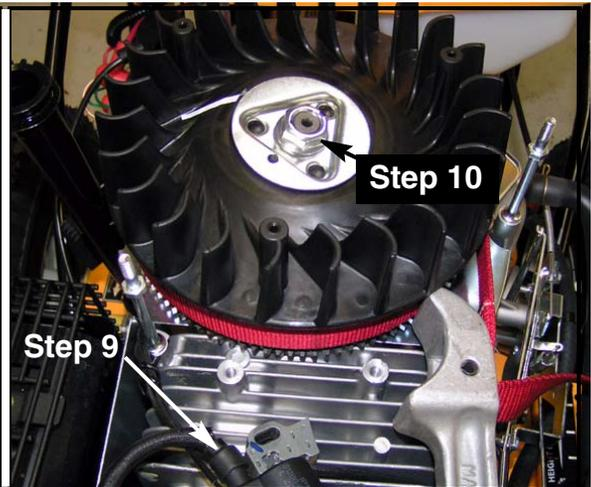

FIGURE 4
9. Using a 10mm socket and ratchet, remove the two screws securing the ignition module. Move the module away from the flywheel. See Figure 4.
10. Using a 23mm socket and ratchet and strap wrench, See Figure 4, remove the nut securing the flywheel to the crankshaft.